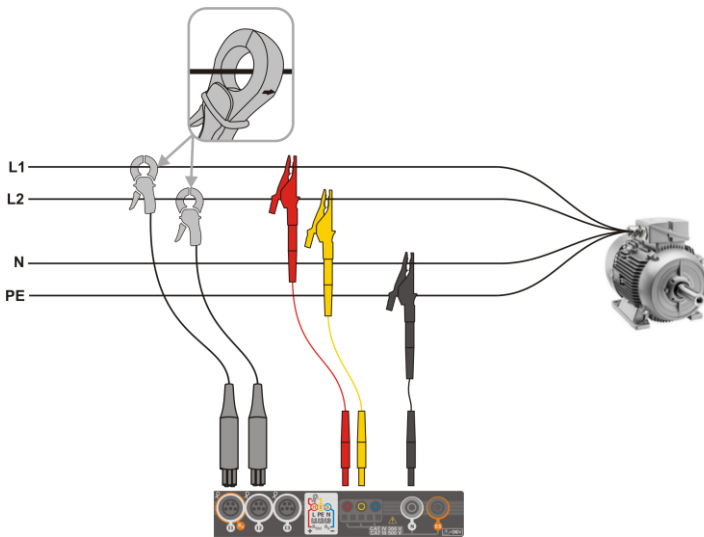

Fig. 4.4 Wiring diagram – 2-phase
- 2-phase (split-phase) with split-winding of the transformer) (Fig. 4.4),